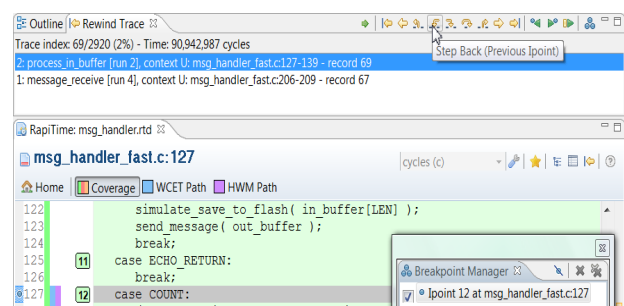

Fig 2: How to move between pieces of code
3. Unlike a regular debugger, with Rewind you can move forwards or backwards from any point in the code (see Fig 2 below). This allows you to examine *why* specific runs take unusually short or long amounts of time.